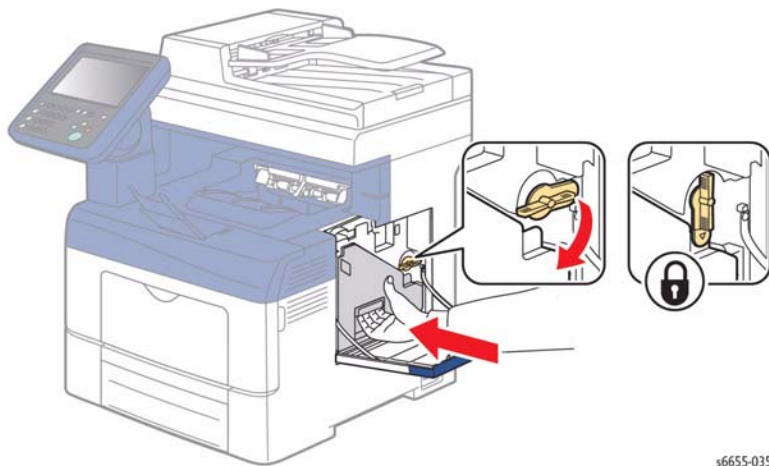

Figure 10 Reinsert and Lock the Waste Cartridge
9. Reinsert the waste cartridge, and turn the waste cartridge lock lever 90-degrees clockwise, Figure 10.